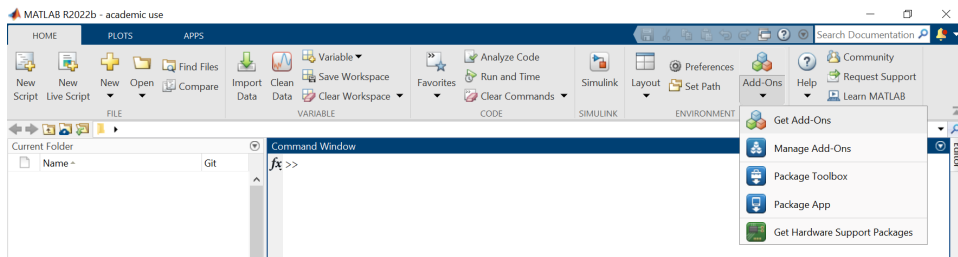

Figure 1: Finding the Add-Ons menu.
1. Once ready, open the Home tab, and find the Add-Ons menu in the ENVIRONMENT section as shown in Fig. 1, and click the Get Add-Ons button highlighted.